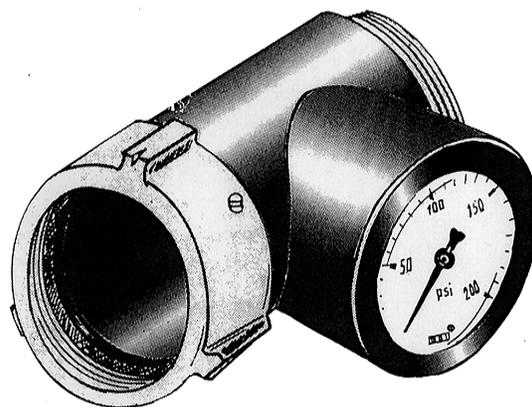

Fig. 9-5
9.4.4 The officer and control firefighter from the second due engine company should relieve the first due control firefighter at the hose outlet and communicate with the first due engine officer to ensure that adequate pressure is supplied to the nozzle. It remains the first due engine control firefighter's responsibility to ensure a proper hook-up to the hose outlet, including connection of any necessary fittings and adapters, as well as deactivation or removal of the PRD. The in-line pressure gauge should **always** be used to ensure correct nozzle pressure and a good fire stream (see Fig. 9-5).